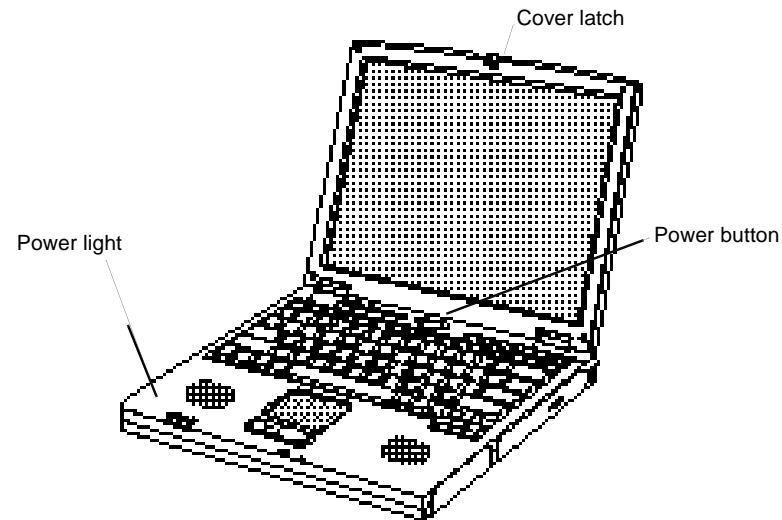

Figure 5. Turning On the Computer's Power
3. Press and then release the power button (Figure 5).